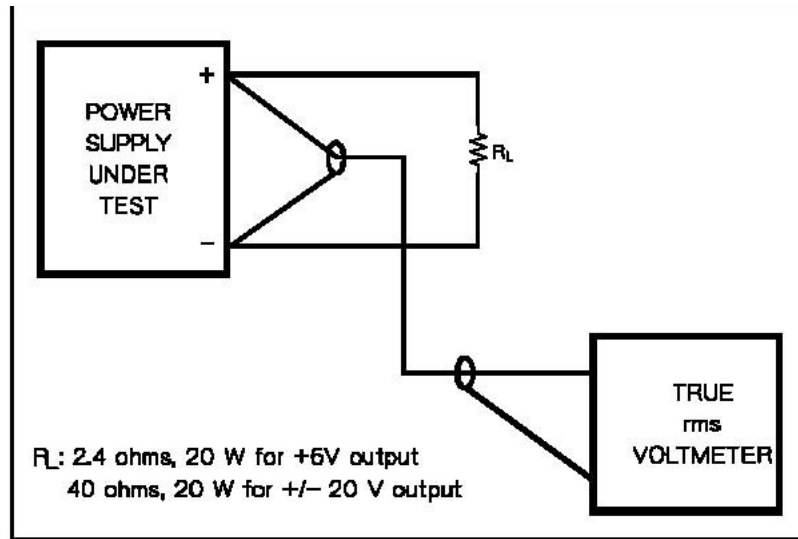

Figure 5-6 Ripple and noise rms measurement test setup
- 1 Connect the test equipment across the output of the +20 V supply as shown in Figure 5-6.
- 1 Connect the test equipment across the output of the +20 V supply as shown in Figure 5-6, but replace the true rms voltmeter with the oscilloscope.